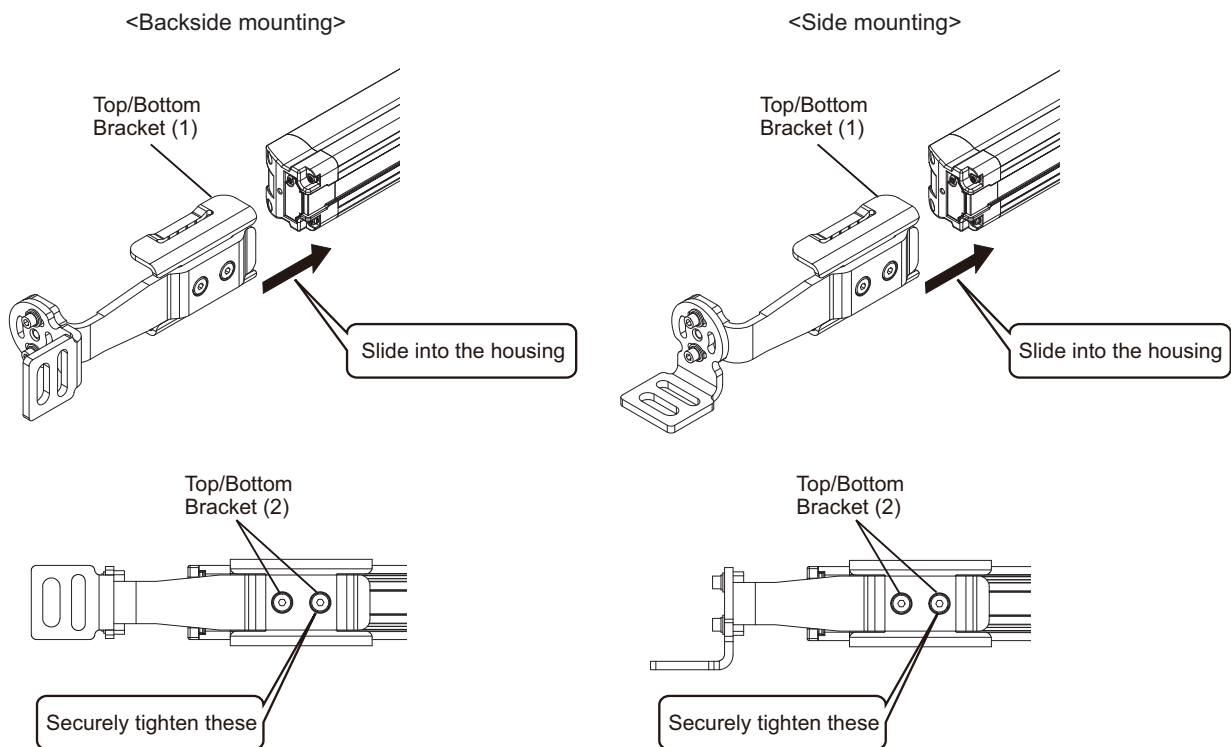

Fig. 2
2. Slide the Top/Bottom Bracket (1) in the grooves of the F3SG-R housing. Adjust the Top/Bottom Adjustable Bracket to the mounting position of the wall surface. Make sure to position the whole body of the Top/Bottom Bracket (1) within the yellow area of the housing. Securely tighten the Screw (2) to fix the Top/Bottom Adjustable Bracket to the housing of the F3SG-R. The recommended torque to tighten the Screw (2) is 3.0 N•m. (Fig. 2)